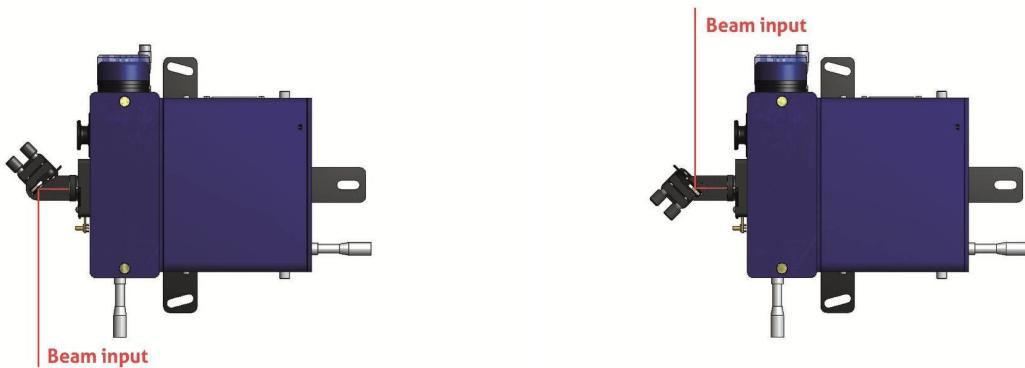
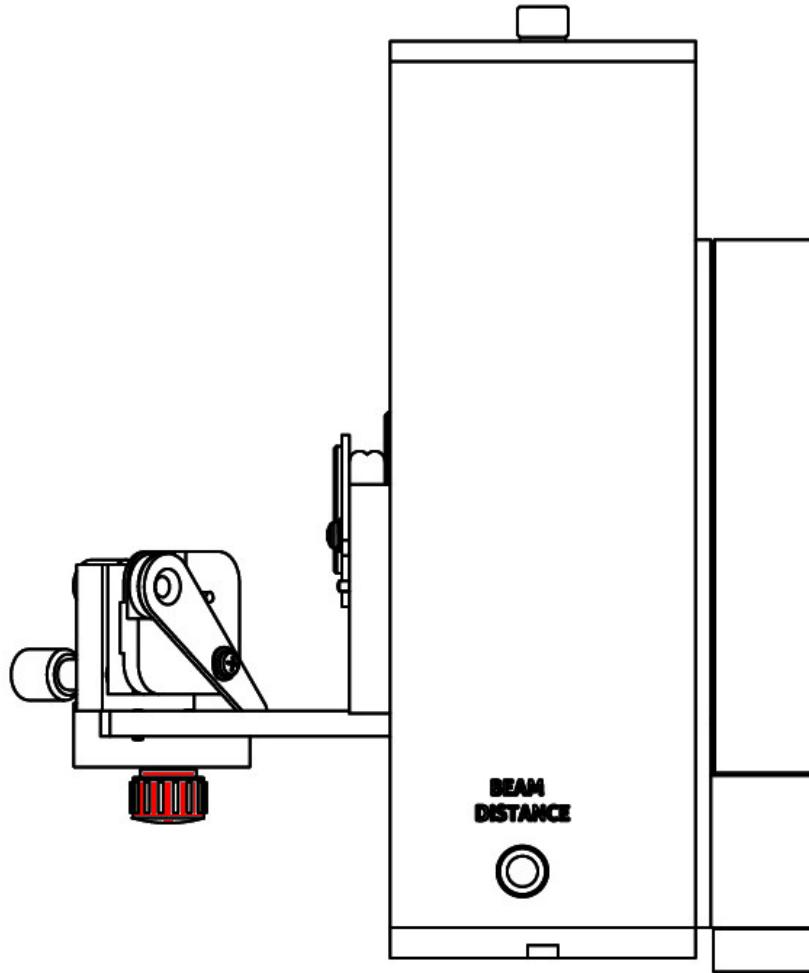

Figure 5.1.: Beam input: The input mirror assembly can be flipped to allow for beam input from either side.
Figure 5.2.: Input mirror assembly: Loosen bottom screw to flip between configurations.
1. Fasten the optical head on your optical table at a place where you can comfortably direct the laser beam to be measured onto the input mirror and handle the control elements. It should be possible to watch the display of your computer at the same time. The input mirror assembly can be mounted in two configurations allowing for different beam input directions (see Figure 5.1). To change the configuration loose the bottom thumb screw of the mirror assembly (see Figure 5.2).